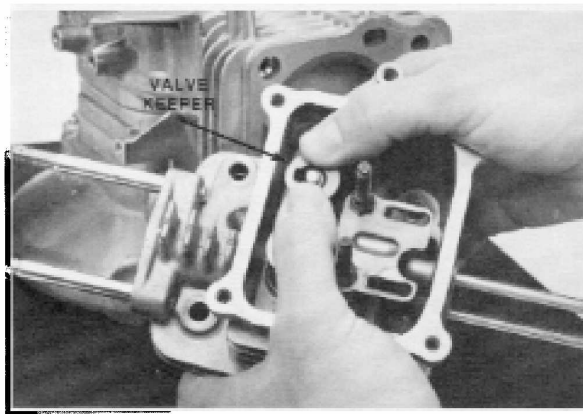

Figure 4-54
3. Install the valve springs and keepers. The keepers and springs are the same on intake and exhaust. See Fig. 4-54. Hold the head of the valve in place and push down with your thumbs to install the keepers.